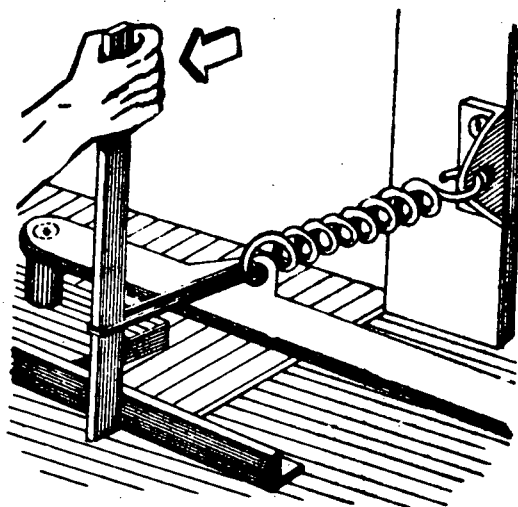

Fig. 2
- 2nd Step - *Tie the tensor to a lever (Fig. 2).*